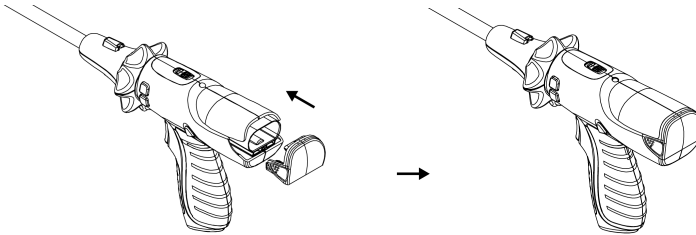

Fig. 4-3: Close the Battery Pack Cover
3. Scrubbed Person firmly closes the battery pack cover without touching the battery pack, as shown in Fig. 4-3. When the battery pack cover is installed, the status indicator on the top of the Stapler is green.